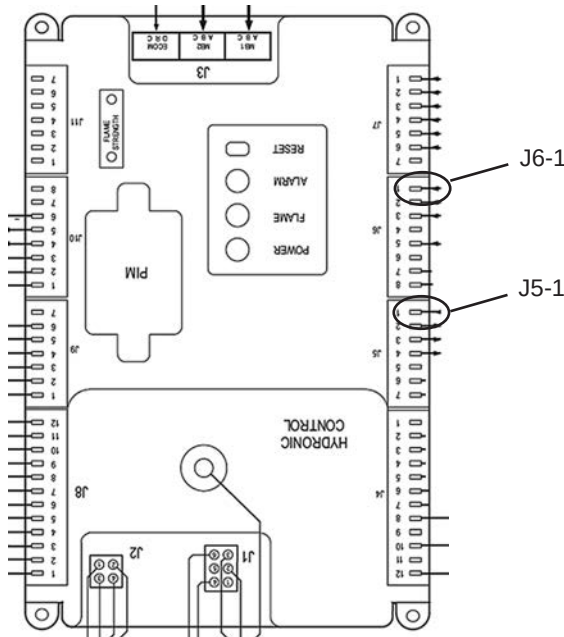

Fig. B1-7 - Checking the safety switches
11. If you see 24V AC at J6-1, this means that all of the switches in the safety chain are satisfied. The blower should run, and then the pressure switch should close, allowing the ignition sequence to start. To check the pressure switch, check for continuity (no resistance) between terminal 1 on J6 and terminal 1 on J5 on the control module. See Fig. B1-7.